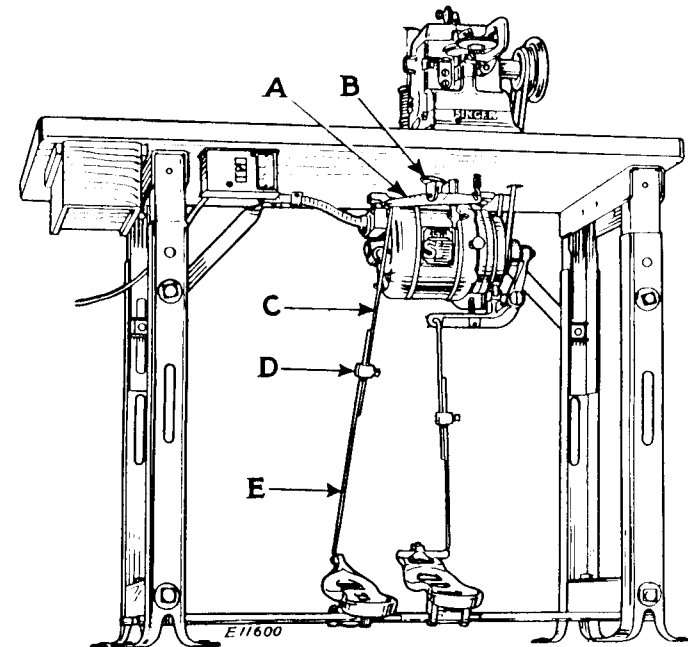

FIG. 2. SETTING UP MACHINE 176-11
Locate the treadle lever (A, Fig. 2) on the underside of the table as follows: Hook one end of the lever into the chain, and insert the upper treadle rod (C, Fig. 2) in the other end of the lever; attach the lower treadle rod (E) to the left treadle, clamp the two rods together with the clamp (D) and adjust the rods in height until the lever bracket (B) can be held against the underside of the table with the treadle, then tighten the screw in the clamp (D). See that the lever clears the oil pipe and that the chain is about central with the hole in the table, then fasten the bracket (B) to the table with two wood screws provided. This set-up is for a heel-operated treadle used in the fur trade.
To set up Machine 176-14, or Machine 176-13 for other than the fur trade, follow the previous instructions **except** that the treadle lever should be arranged for toe operation. This is done by hinging one end of the treadle lever in the bracket (B, Fig. 2), hooking the chain in the center hole and the treadle rod in the hole in the other end of the lever. This arrangement of treadle is used on sheep-lined coats and on slipper work.